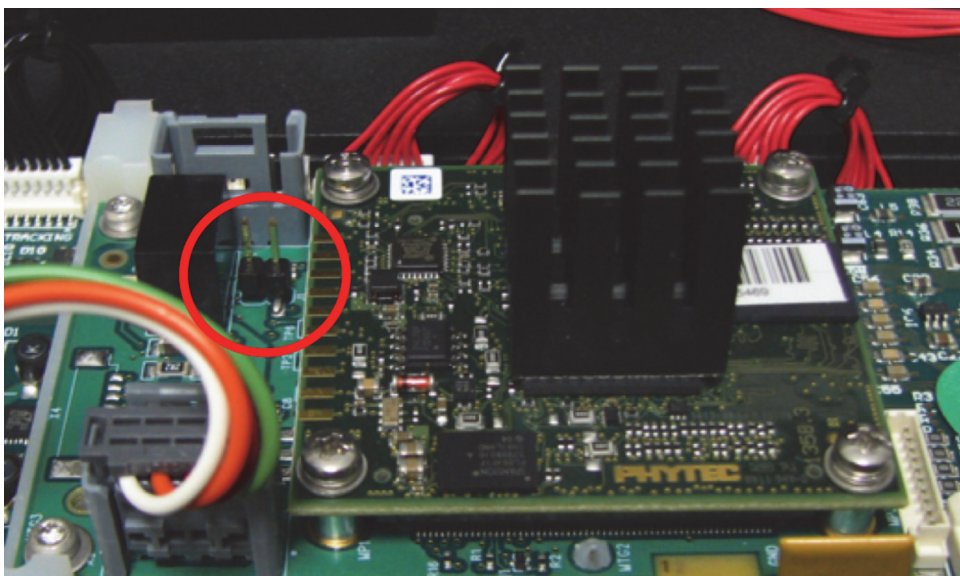

Figure 4.1 The phyCORE Adapter Assembly, including the PHYTEC phyCORE CPU module
2. Open the head and locate the phyCORE adapter assembly, which includes the CPU module (see Figure 4.1).
Tip: There is only one 2-pin header on the assembly. In Figure 4.1, the 2-pin header is circled in red.